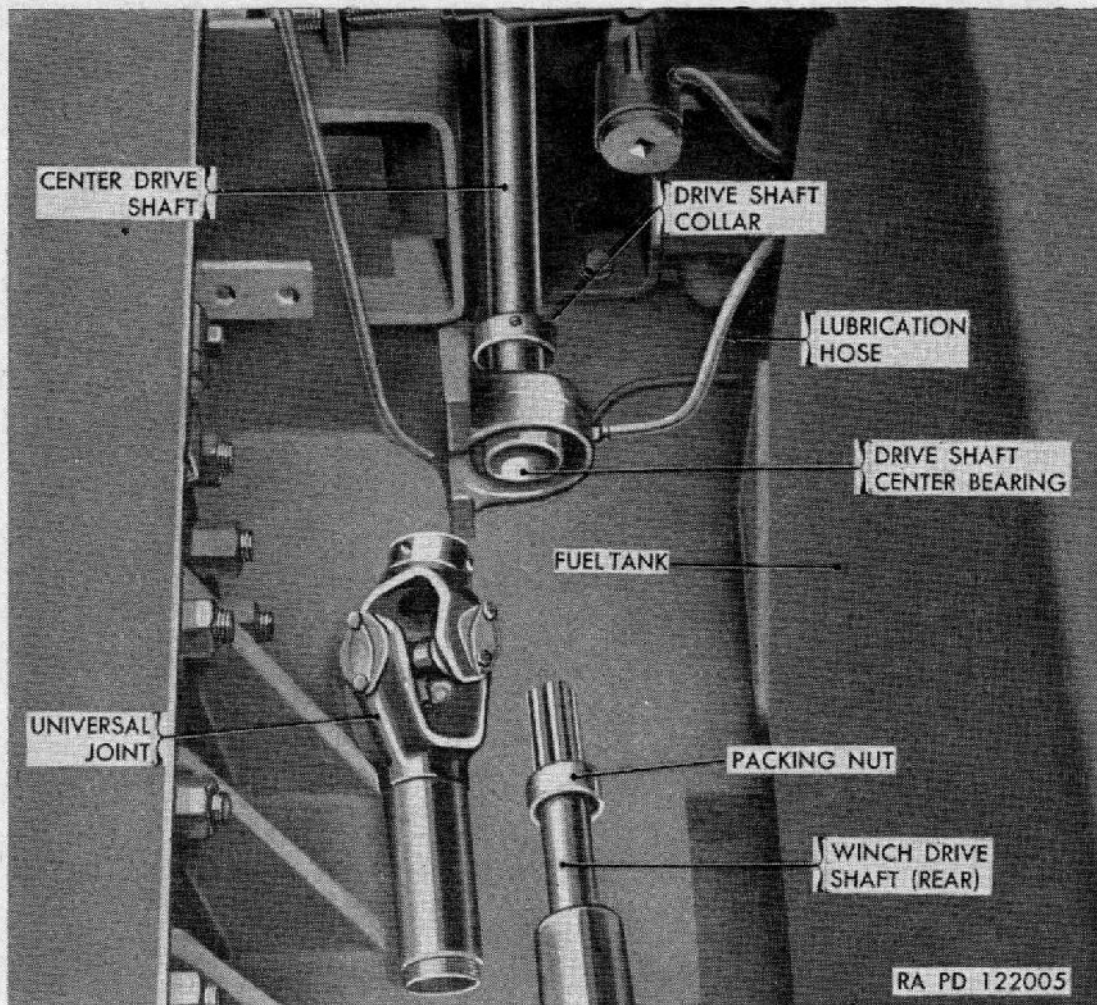

Figure 166. Winch drive shaft bearing removal.
a. Removal. Slide the ammunition box back (par. 214e). Remove socket-head lock screw in drive shaft collar (fig. 166) so the shaft can